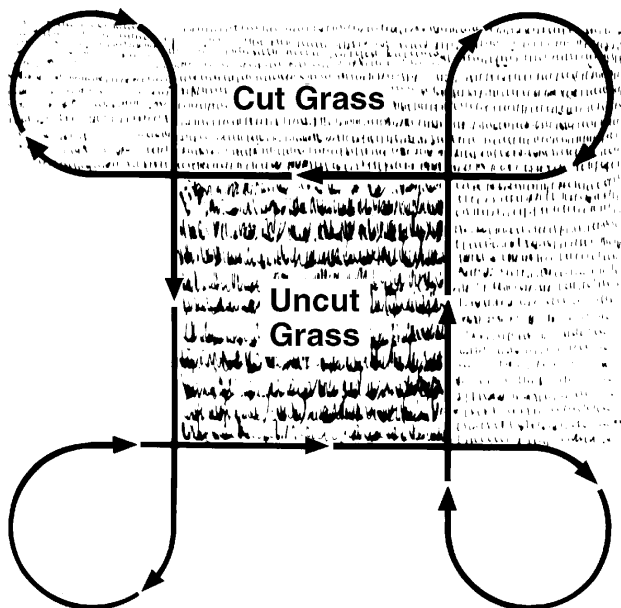

Figure 66
4. Follow the mowing pattern shown in Figure 66.